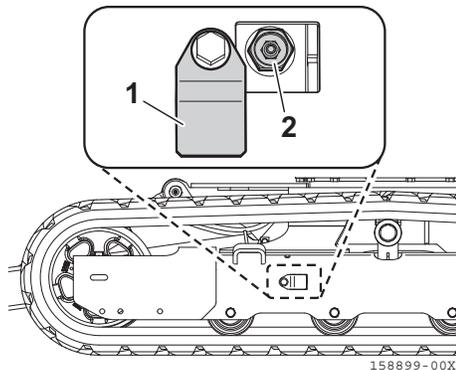

Fig. 8-22
1. Remove the cover (**Fig. 8-22, 1**).
3. Loosen the nipple valve (**Fig. 8-22, 2**) and discharge the grease until the steel crawler tension is 5.1 in. (130 mm) [4.7 to 5.1 in. (120 to 130 mm) when replacing with a new one].
- **Never loosen the nipple valve (**Fig. 8-22, 2**) more than one turn.**
4. Tighten the nipple valve (**Fig. 8-22, 2**).
8. Install the cover (**Fig. 8-22, 1**).